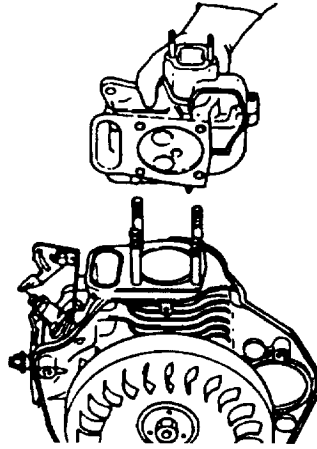

Figure 6-8 Removing the cylinder head
- 1) Remove the cylinder head (see Figure 6-8).